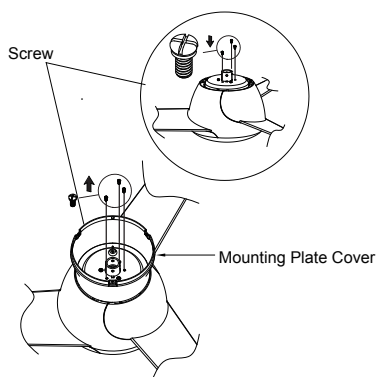
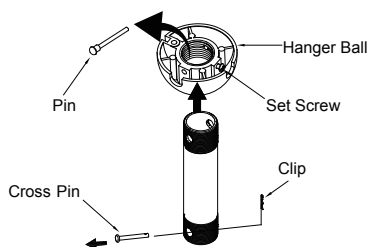

Fig. 5
Fig. 6
Remove the three (3) mounting screws to release the mounting plate cover from ceiling fan, then reinstall the removed screws back to the ceiling fan. (Fig. 5).
Install three (3) mounting screws found in the fan mounting plate cover hardware bag to the ceiling fan, and tighten them. (Fig. 5).
**IMPORTANT:** Must install and tighten three (3) mounting screws, otherwise will destroy your fan.
**Step 3.** Remove the hanger ball from downrod assembly by loosening set screw, removing the pin, and sliding ball off the rod. Remove the clip and cross pin from the downrod. (Fig. 6)